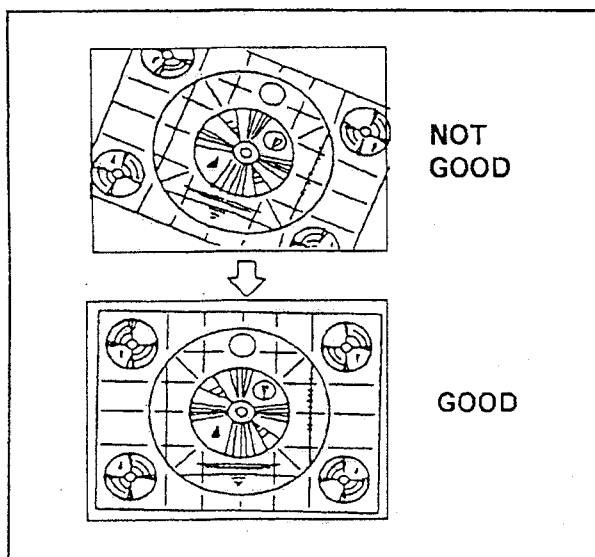

Figure F6.
3. Rotate the deflection coil clockwise or counterclockwise so that the picture is straight on the screen as shown in Figure F6.